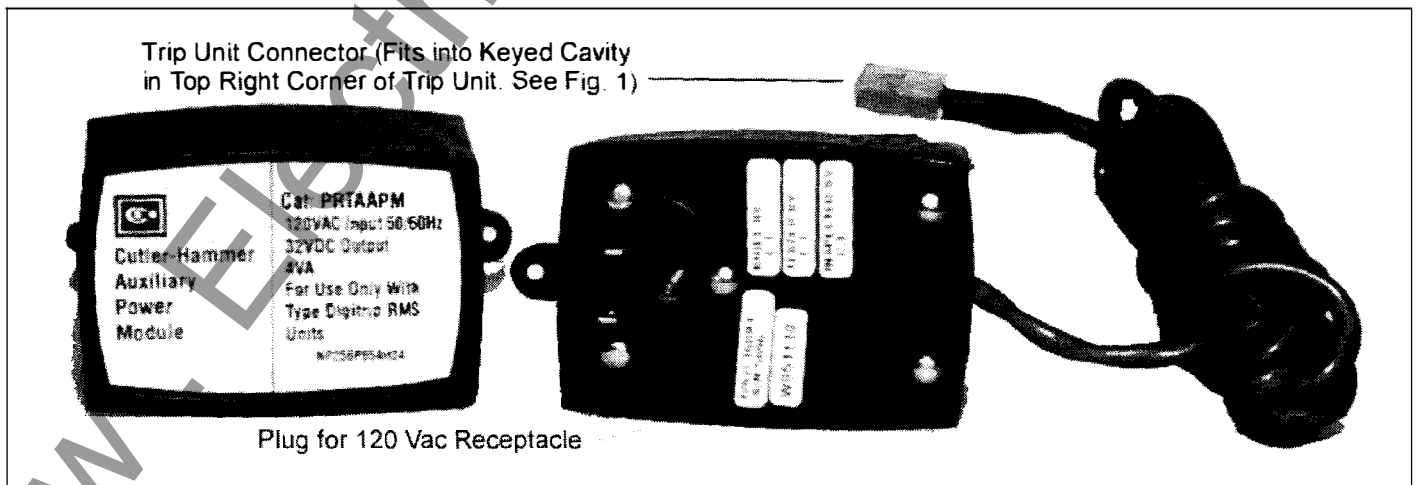

Fig. 7 Auxiliary Power Module
Since the Digitrip RMS 510 Trip Unit is completely self-powered using energy derived from the current sensors installed in the circuit breaker, all in-service tests conducted should be conducted with the auxiliary control power module, shown in Fig. 7, plugged into the trip unit. This action will avoid difficulties caused by load current levels that are too low to operate the trip unit.
- 1) **Before starting any test sequence**, check the Unit Status (Green LED) in the lower right corner of the trip unit (See Figs. 1 and 5) to be sure it is blinking on and off about once each second, which indicates that the trip unit is functioning normally. In the event the Unit Status LED is not blinking, install an Auxiliary Power Module (APM) (See Fig. 7), or if you have one already, check to see that it is connected correctly.
a) *the current is not less than 10% of the breaker frame (or current sensor) rating; be sure the “GREEN” Unit Status LED (in the lower right corner of the trip unit (See Figs. 1 and 5) is blinking on and off (indicating that there is enough current flowing to provide the power necessary to operate the trip unit). **In the event the Unit Status LED is either lighted “GREEN” or “OFF” continuously, there is NOT enough current flowing to power the trip unit; and an APM (See Fig. 7) should be installed before proceeding with the test.***
For testing the trip unit, an optional Auxiliary Power Module (Cat. No. PRTAAPM) as shown in Fig. 7 is recommended. This Auxiliary Power Module, which operates from a separate 120 Vac supply, may be used when a drawout circuit breaker is in any of its four cell positions, i.e., “Connected”, “Test”, “Disconnected” and “Withdrawn” (or “Removed.”)
Note: For Testing Purposes Only: When using an external single phase current source to test low level ground fault current settings, it is advisable to use the Auxiliary Power Module (APM) (See Fig. 7). Especially when the single phase current is low, without
The Auxiliary Power Module or APM (Cat No. PRTAAPM), illustrated in Fig. 7, is an encapsulated power supply that requires a 120 Vac input at either 50 or 60 Hz. It provides an output of 32 Vdc (nominal 40 Vdc open circuit) which can be used for testing a Digitrip RMS 510 Trip Unit.